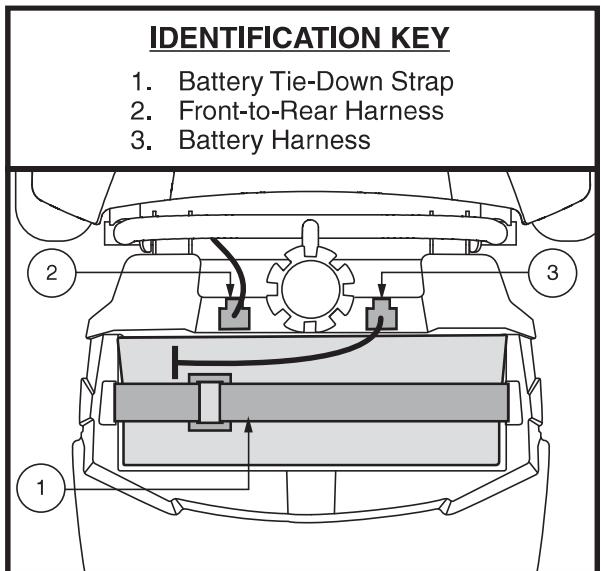

Figure 20. Battery Tie-down Strap
1. Disconnect the battery harness and remove the battery pack from the Travel Scooter. See figure 20.
2. Disconnect the battery harnesses and tie-down strap then remove the battery pack from the Travel Scooter. See figure 20.